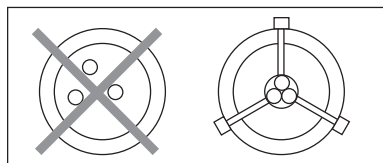

Figure 88: *Incorrect and correct methods of grouping MV cables together in center of core balance CT*
4. Group the MV cables together, and install them in the center of the core balance CT (figure 88). The MV cable shielding *must* pass through the CT to cancel out measurement of the eddy currents carried by the conductor.